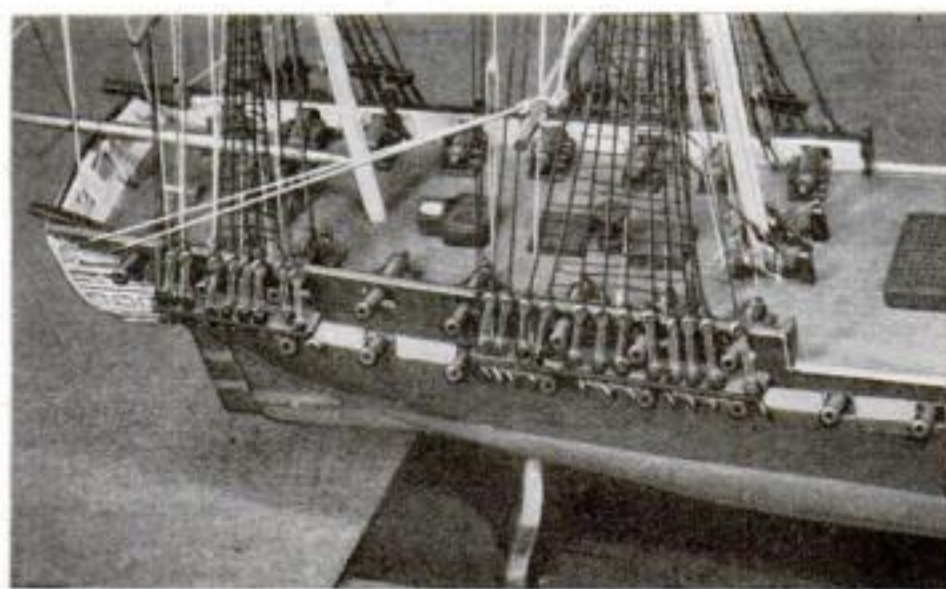

Fig. 2. Deck view of the model, showing position of guns, boats, hatch covers, skylights and various fittings. The hull is 20 in. long
The bowsprit is rather more elaborate. Starting at the heel, a groove is made or a cleat nailed on (Figs. 2 and 3) to retain the gammoning (lashing). The next cleat on top is to retain the martingale boom (marked 5, Fig. 3); the third cleat, a larger one, is to take the heel of the jib boom (N), and the two outer cleats (at the sides) or "bees" retain the foretopmast stay (Fig. 1). Below these are fastened at each side a deadeye for the bowsprit shrouds. Underneath, leaving room for the spritsail yard between, come deadeyes for the bobstays. How to make deadeyes will be told in next month's issue.
**T**HE lower deck guns may be made in the same way, but without the butt ends;  $\frac{5}{8}$  in. will be long enough for them. All the guns may be black or bronze color, with black spots at the ends (Fig. 2).
The fife rails (Figs. 2 and 5) are made from hardwood, with uprights  $\frac{1}{8}$  in. square and rails  $\frac{1}{8}$  by  $\frac{1}{16}$  in. The posts are slightly pointed and driven into square holes in the deck and glued. The rails are nailed to these with pin points, as well as being glued. Pin points passing upright through the rails represent the belaying pins.
The channels (Figs. 2 and 5), to spread the rigging, have their upper edges coinciding with the edge of the deck although
Two staples will be needed in the deck right in the bow on either side of the heel of the bowsprit (Fig. 2); two just forward of the mainmast; one on either side, close to the bulwarks, between gunports 1 and 2, 5 and 6, and 9 and 10, counting from forward; these are for the Bentinck shrouds and must be firm.
Spars from which the quarter boat would hang project from the stern (Fig. 2). They are  $\frac{1}{8}$  in. square wood, slightly curved and nailed inside the bulwark,  $\frac{3}{4}$  in. inboard and  $\frac{3}{8}$  in. outboard. They are painted black.
The hatches (Figs. 2 and 6) are of soft wood  $\frac{3}{16}$  in. high and of the various sizes shown. The tops are in the form of gratings, which may be thin strips of wood, or simulated by punching holes with a square pointed nail. The sides will be black and the gratings dark brown. The skylights on half of two of them are small blocks glued on top. The glass effect is obtained with dark blue paint diagonally streaked with white, which is blended into the blue.